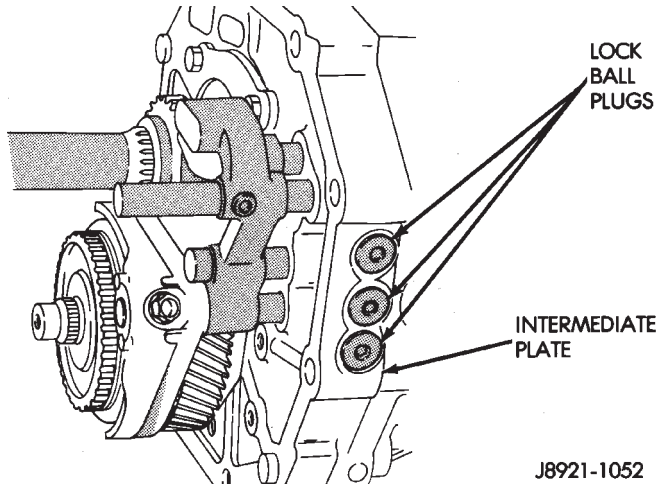

Fig. 22 Lock Ball Plug Locations
(1) Remove three lock ball plugs from intermediate plate (Fig. 22).